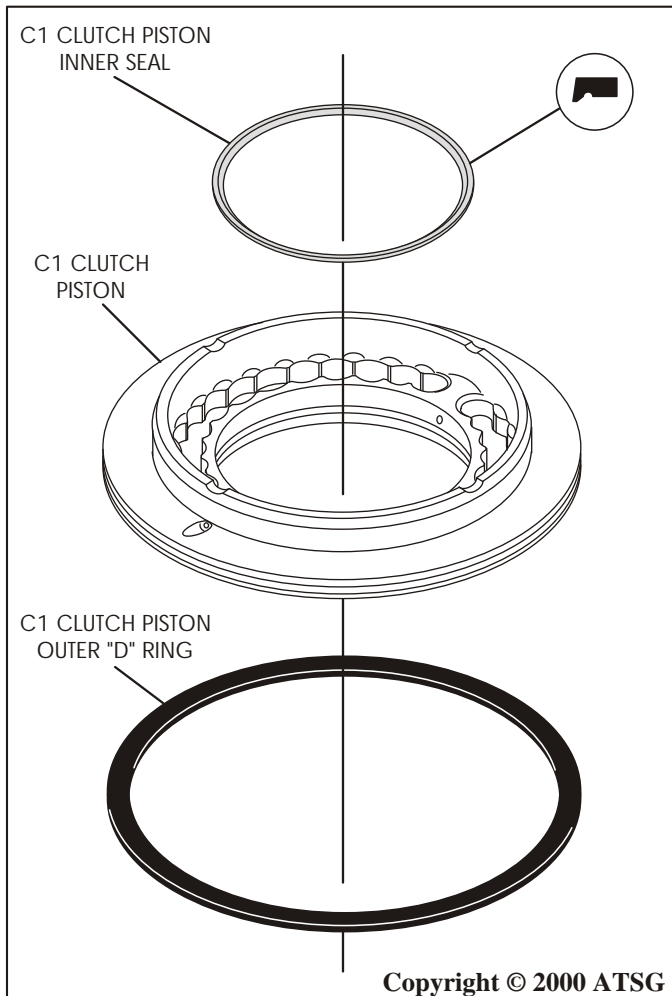

Figure 107
15. Install new C1 clutch piston inner lip seal, as shown in Figure 107.
16. Install new C1 clutch piston outer "D" ring seal in piston groove, as shown in Figure 107.